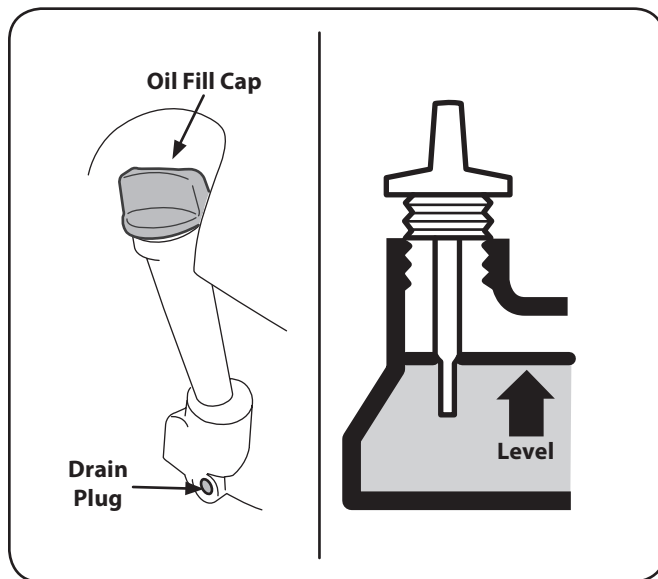

Figure 11-1
2. Remove drain plug and allow oil to drain into a suitable container. See Fig. 11-1.
4. Refill with the recommended oil (see Operation section) and check the oil level. See Fig. 11-1.